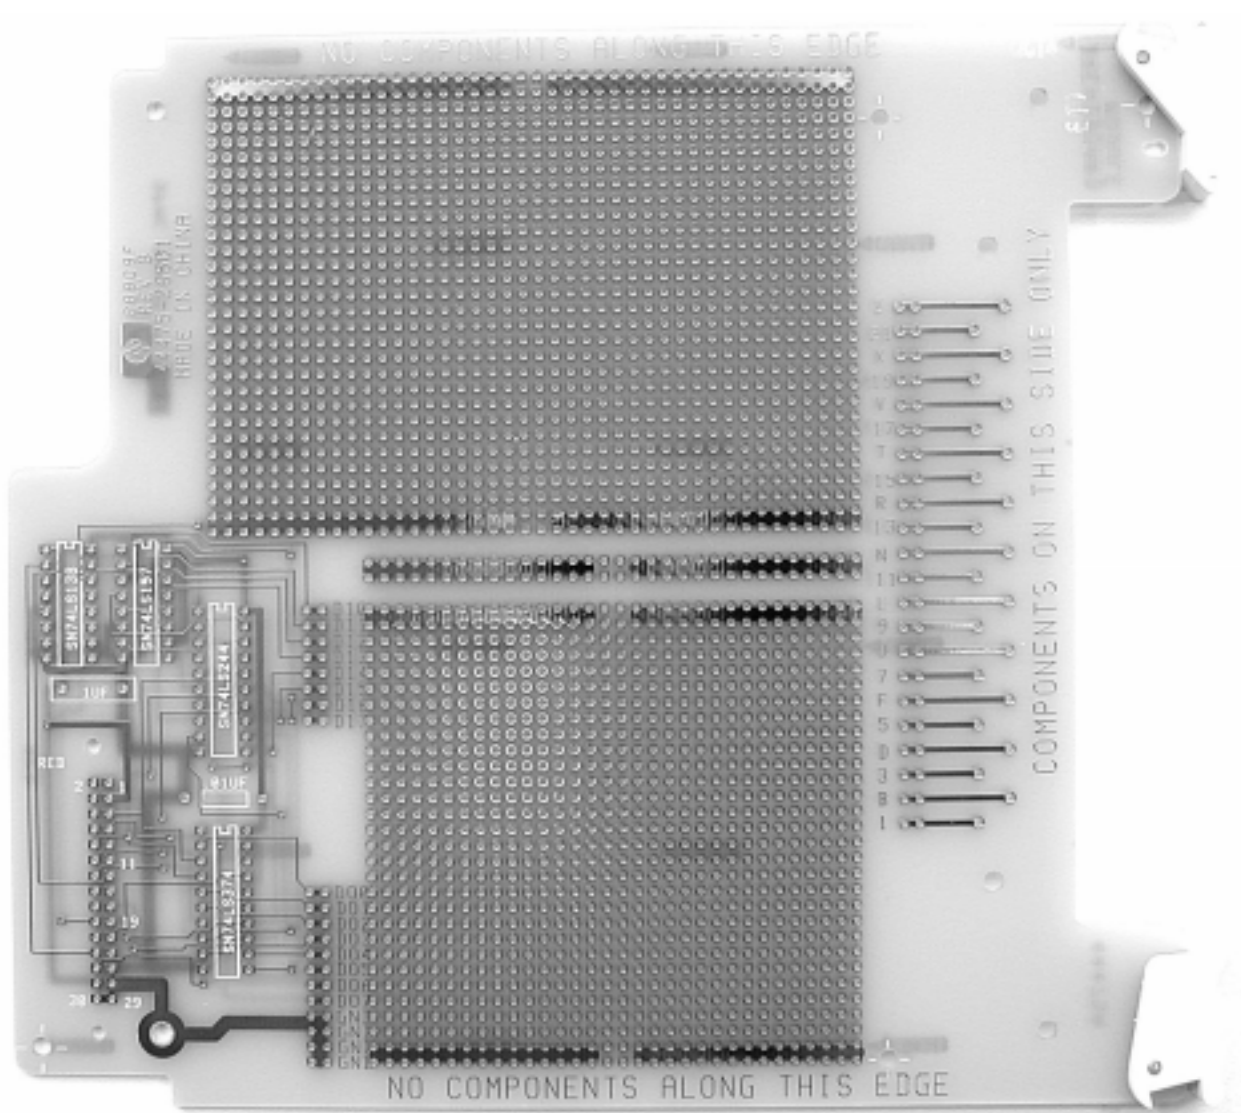

Figure 8-45. HP 44475A
As shown in Figure 8-45, the HP 44475A consists of two areas. They are:
- **The First Step** is to load the components (if your task requires them) for the 8-bit Input and 8-bit Output ports. Components were not supplied (but are listed in Table 8-27 on Page 235). Figure 8-45 on Page 234 shows where these components are to be mounted on the Breadboard.